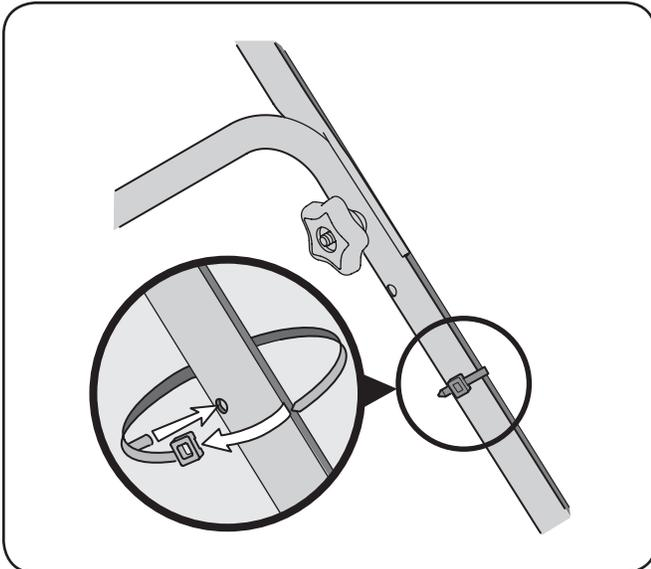

Figure 3-4
- Insert post on cable tie into hole provided on the lower handle. Pull cable tie tight and trim excess. See Figure 3-4.